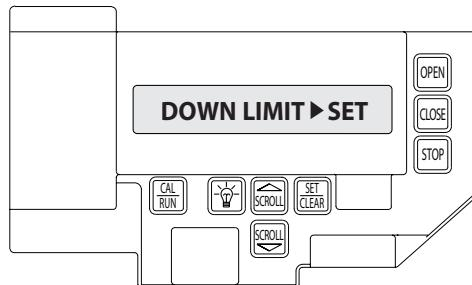

Figure 8
- 4) Press SET/CLEAR  key to switch display to "UP LIMIT>SET" or "DOWN LIMIT>SET." **Figure 8**.
- 2) Press SCROLL  key until display reads "UP LIMIT>SET" or "DOWN LIMIT>SET." **Figure 8**.